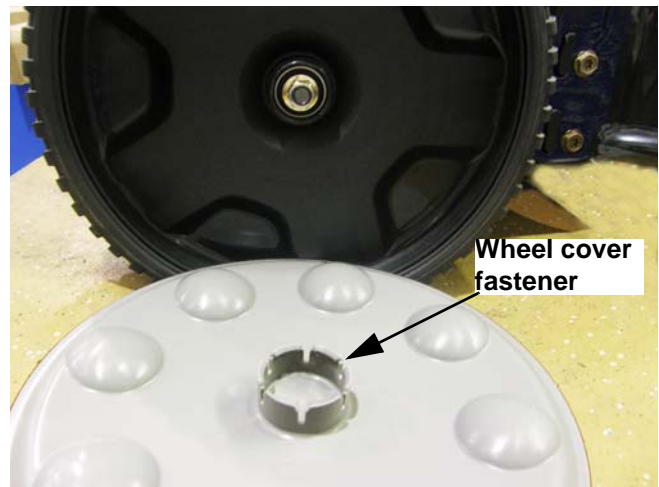

Figure 4.20
8. Removal of the 11" rear wheels is similar to removal of the 8" rear wheels, except that there is a wheel cover. See Figure 4.20.